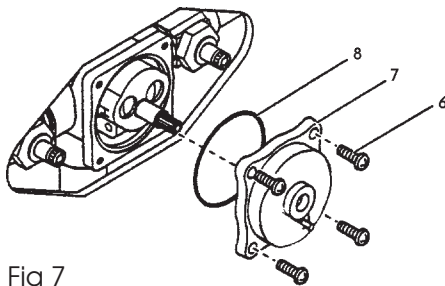

Fig 7
3. Loosen all points (A) the compression nut, along with the union nuts (4) points on the body.
9. Pay close attention to location setting of the mechanical stops (4 and 5). The thick mechanical stop (4) regulates cold temperature, while the thin top mechanical stop (5) regulates the hot temperature.
10. Loosen the four corner screws (6) and remove the valve cover (7) with the O-ring (8). The cartridge assembly is now exposed. (Fig 7)